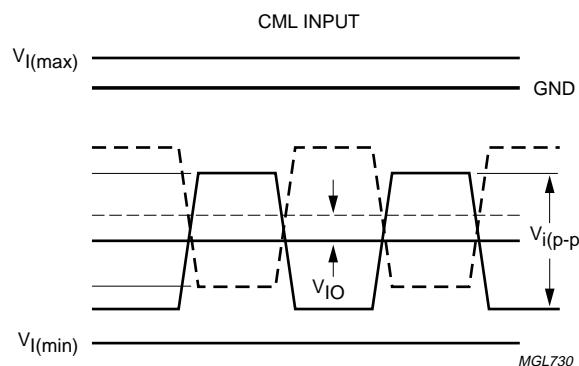

Fig.10 Logic level symbol definitions for CML inputs.
3. See Fig.10 for CML symbol definitions. All CML inputs are terminated internally using 50 Ω on-chip resistors to ground.